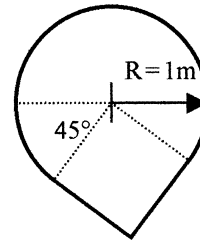

Fig. P10.31
**10.31** A storm drain has the cross section shown in Fig. P10.31 and is laid on a slope 1.5 m/km. If it is constructed of brickwork, find the normal discharge when the water level passes through the center of the circle.